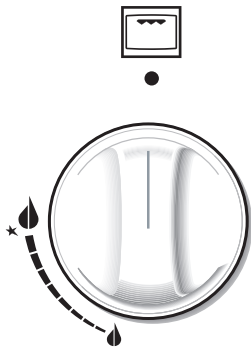

Fig. 2.4
2. Press in the corresponding knob and turn counter-clockwise to the full flame position marked by the  or **Max**  symbol (fig. 2.4) and hold the knob in until the flame has been lit.